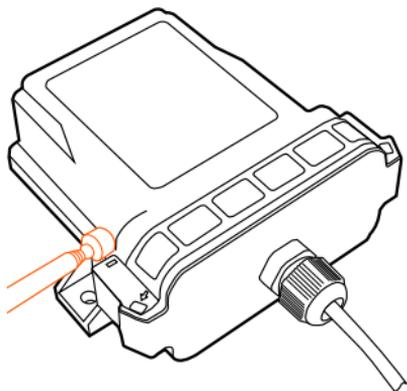

Figure 1. Activation with magnet.
1. Hold a magnet against the left side of the product, see Figure 1. The device will beep repeatedly.